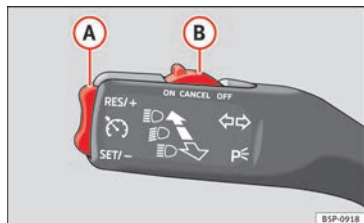

Fig. 136 Turn signal and main beam headlight lever: switch and rocker switch for the cruise control.
- Press the lower part **SET/-** of the rocker switch » **Fig. 136 A** once briefly when you have reached the speed you wish to set.
- Press the upper part **RES/+** of the rocker switch » **Fig. 136 A** to increase the speed. The vehicle will continue to accelerate as long as you keep the rocker switch pressed. When you release the switch, the new speed is stored.
- Press the lower part **SET/-** » **Fig. 136 A** of the rocker switch to reduce the speed. The vehicle will automatically reduce its speed for as long as you keep the switch pressed. When you release the switch, the new speed is stored.
Cruise control is switched off if you reduce speed by depressing the brake pedal. You can reactivate the control by pressing once on the upper part of the rocker switch **RES/+** » **Fig. 136 A**.